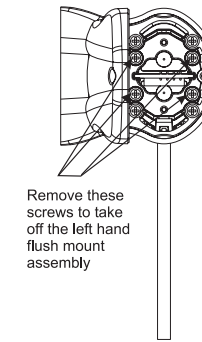

Fig 1-5: Removing the Left Hand Assembly
- 2) Remove the left hand flush mount assembly by unscrewing the 4 screws that fix the end moulding to the aluminium tube. These are located inside at the bottom of the end moulding. See Fig 1-5.